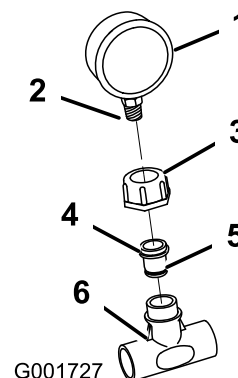

Figure 12
10. Wrap the pressure gauge threads with Teflon tape. Install the small plastic nut and reducer assembly to the pressure gauge. Use a hex wrench to screw the reducer assembly to the pressure gauge (Figure 12).
11. Install the pressure gauge assembly to the plastic tee (Figure 12).